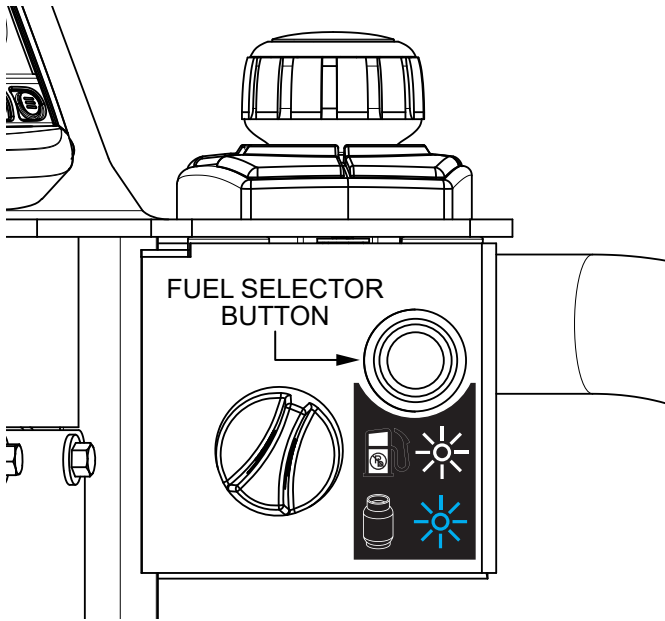
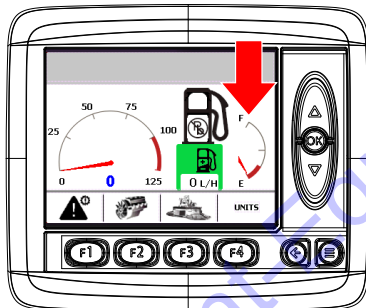

Figure 29. Fuel Selector Button
Figure 30. Fuel Check (Gasoline)
4. Press the **fuel selector button** (Figure 29) to select the gasoline fuel system. The selected fuel system is shown on the digital display (Figure 30).
5. Read the fuel gauge on the digital display (Figure 30) to determine if the gasoline level is low.